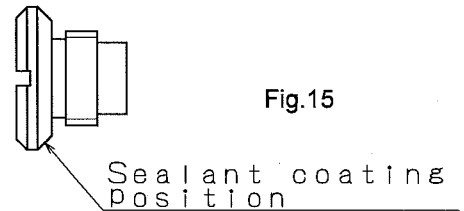

Fig.15
- ③ Degrease Lock screw(21) and its setting position on Casing(1) using solvent.
- ④ Apply sealant to the bearing surface of Lock screw(21) and tighten it with a torque of $20 \sim 25 \text{ N} \cdot \text{m}$ $\{2.0 \sim 2.5 \text{ kgf} \cdot \text{m}\}$. (See Fig. 15)